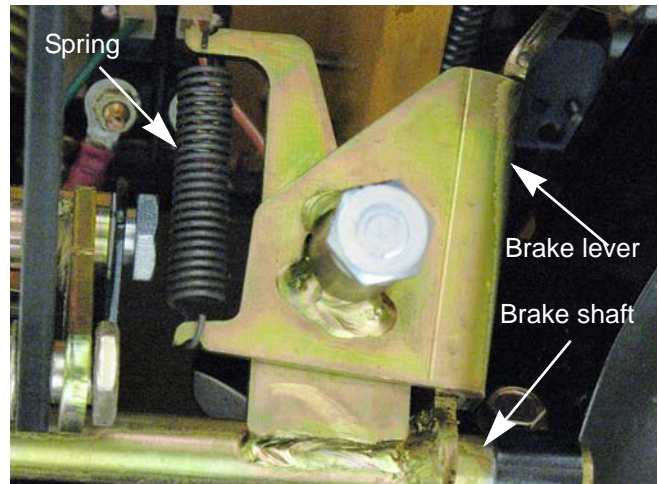

Figure 3.16
3. Remove the extension spring that runs from the brake lever to the brake shaft. See Figure 3.16.